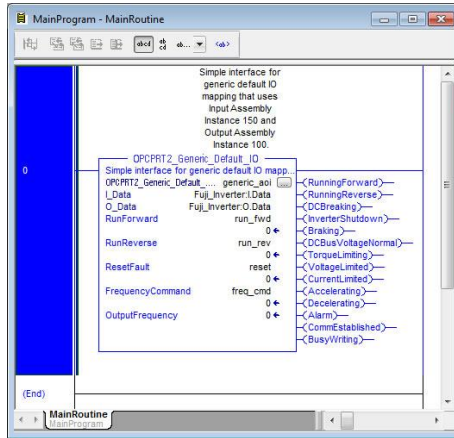

Figure 44: Configure Generic Default AOI
- 10) Edit the add-on instruction according to Figure 44.